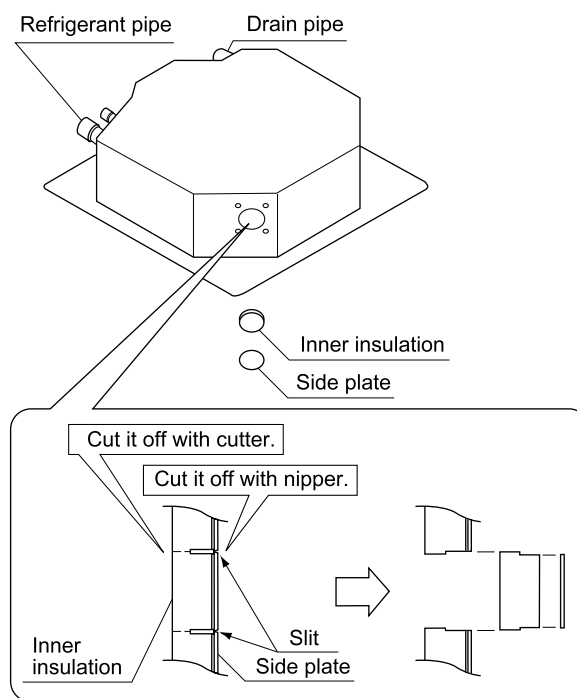

Fig. 1
- (1) Cut off the knockout hole on the side plate. Then, cut the inner insulation of the hole portion. (Refer to Fig. 1)